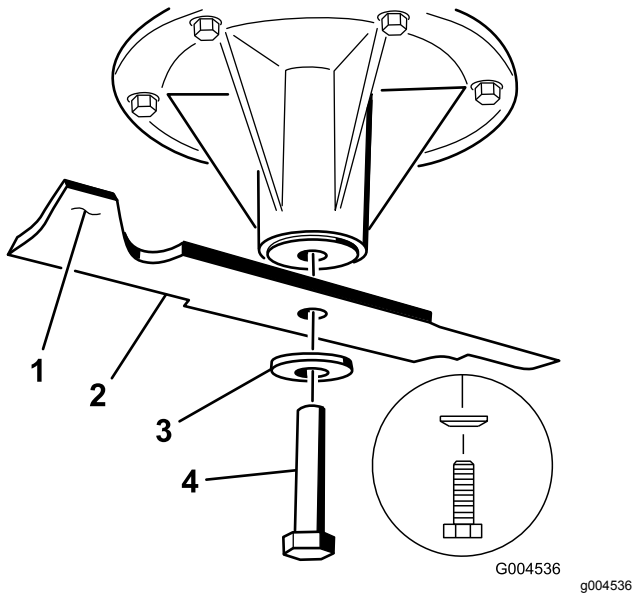

Figure 99
1. Install the blade onto the spindle shaft (Figure 99).
2. Install the spring disk and blade bolt (Figure 99).
**Note:** The spring-disk cone must be installed toward the bolt head (Figure 99).